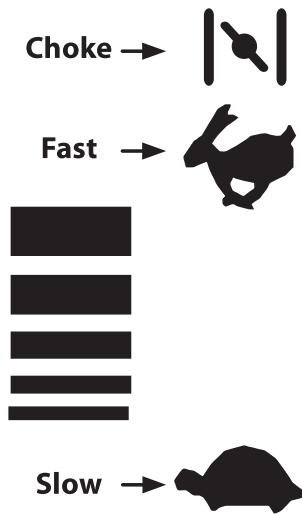

Figure 4
2. Move the gear shift lever into the neutral (N) position.
3. If starting a cold engine, place the throttle/choke control all the way forward, into the CHOKE position (Figure 4).